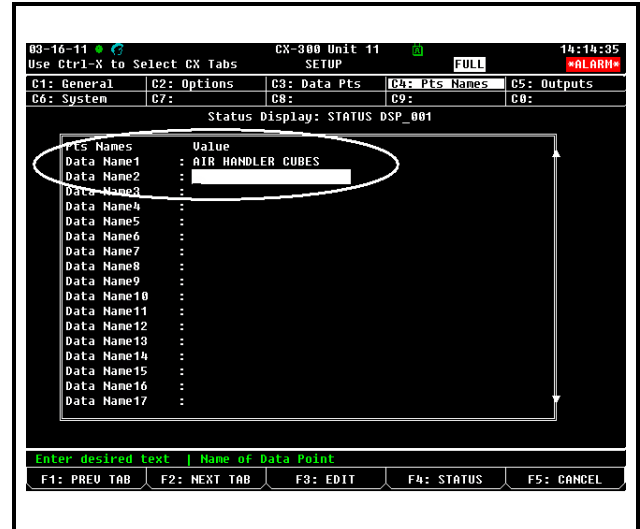

Figure 6-4 - Entering a Data Point Name
- Go to the **Pts Names** tab and enter a name for the data point (*Figure 6-4*).